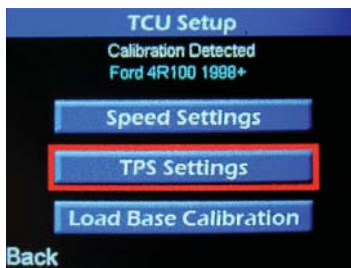

Figure 24
1. To alter, select “TPS SETTINGS” using the “UP” and “DOWN” arrow buttons and press the “OK” button (Figure 24).